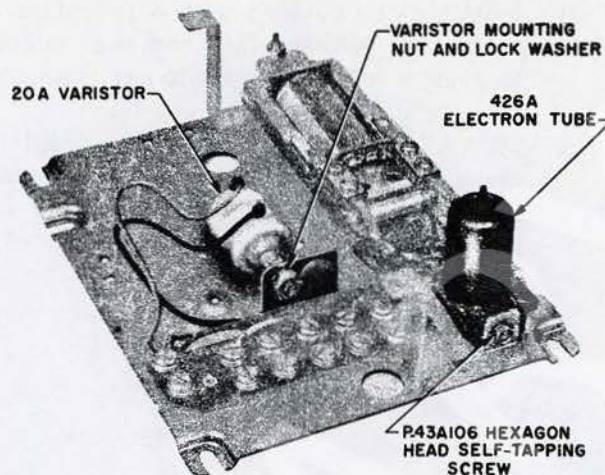

Fig. 17 - Assembly of Tube and Varistor in 687-Type Subscriber Set
3.05 Electron tubes and varistors generally used are normally mounted as shown in Fig. 17.